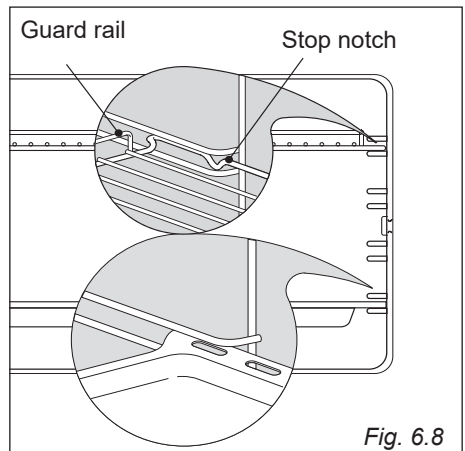

Fig. 6.8
- Slide in, on the guides, the shelf and the tray (figs. 6.8).